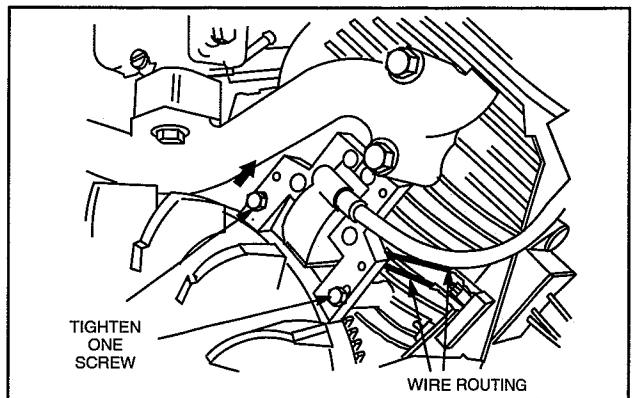

Fig. 9 – Install Armatures
5. Assemble armature to engine, Fig. 9.